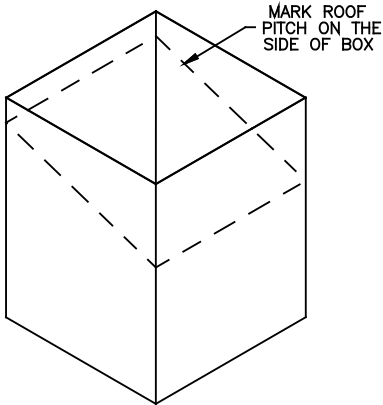

Figure 28
1. Mark a line on the side of the Cathedral Ceiling Support Box to correspond to the line of the roof pitch, as shown in **(Figure 28)**.